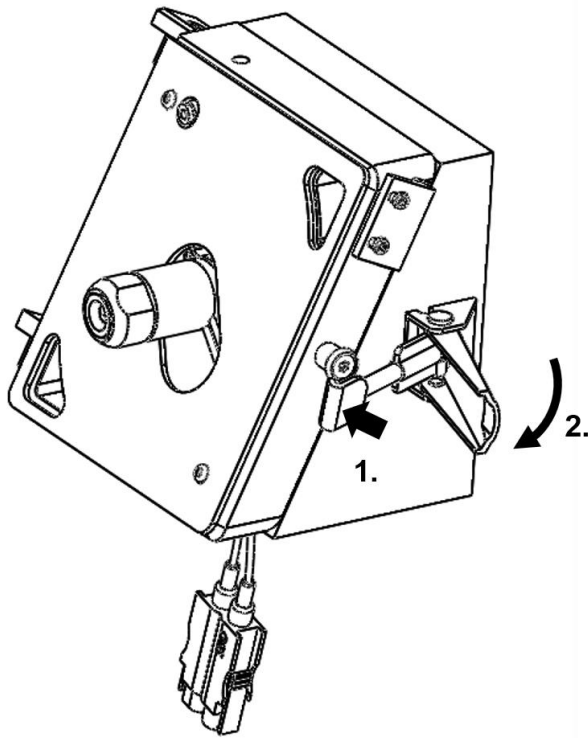

Figure 8: Closing the Interlock.
- Lock the interlock by closing the locker over the catch on the interface (see Fig. 8).